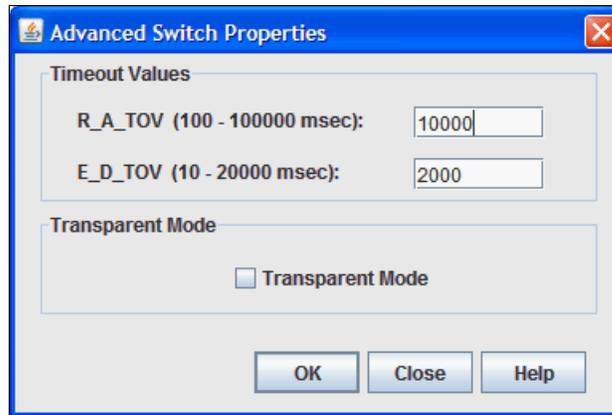

Figure 6-29 Virtual Fabric Extension Module Advanced Switch Properties window
2. In the Advanced Switch Properties window (Figure 6-29), select **Transparent Mode**, and click **OK**.